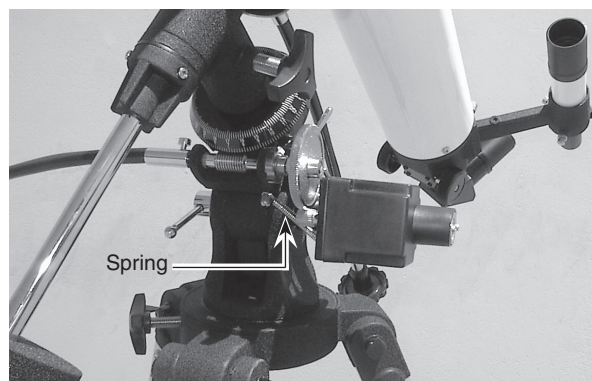

Figure 6. The EQ-2M motor properly installed on the EQ-2 mount.
4. Connect the spring (Figure 6) on the motor housing to the knurled setscrew underneath the R.A. worm gear on the equatorial mount. Do this by first loosening the setscrew about five turns. Now, stretch the spring and slide its end ring over the knurled head of the set screw and onto the threads. If you are having trouble stretching the spring with
The motor is now properly installed on the EQ-2 mount, and should appear as in Figure 6.